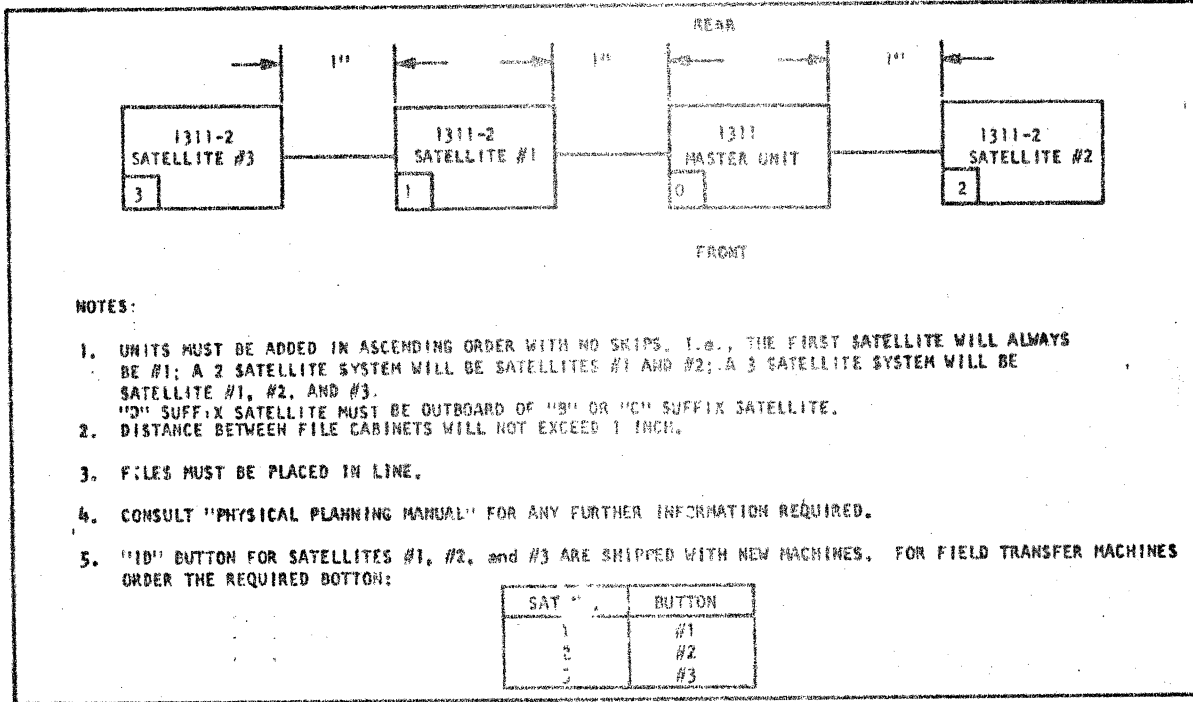

FIGURE 1. SATELLITE PHYSICAL PLACEMENT REQUIREMENTS.
2. PLACE DISK STORAGE UNITS IN PROPER POSITIONS (SEE FIGURE 1).